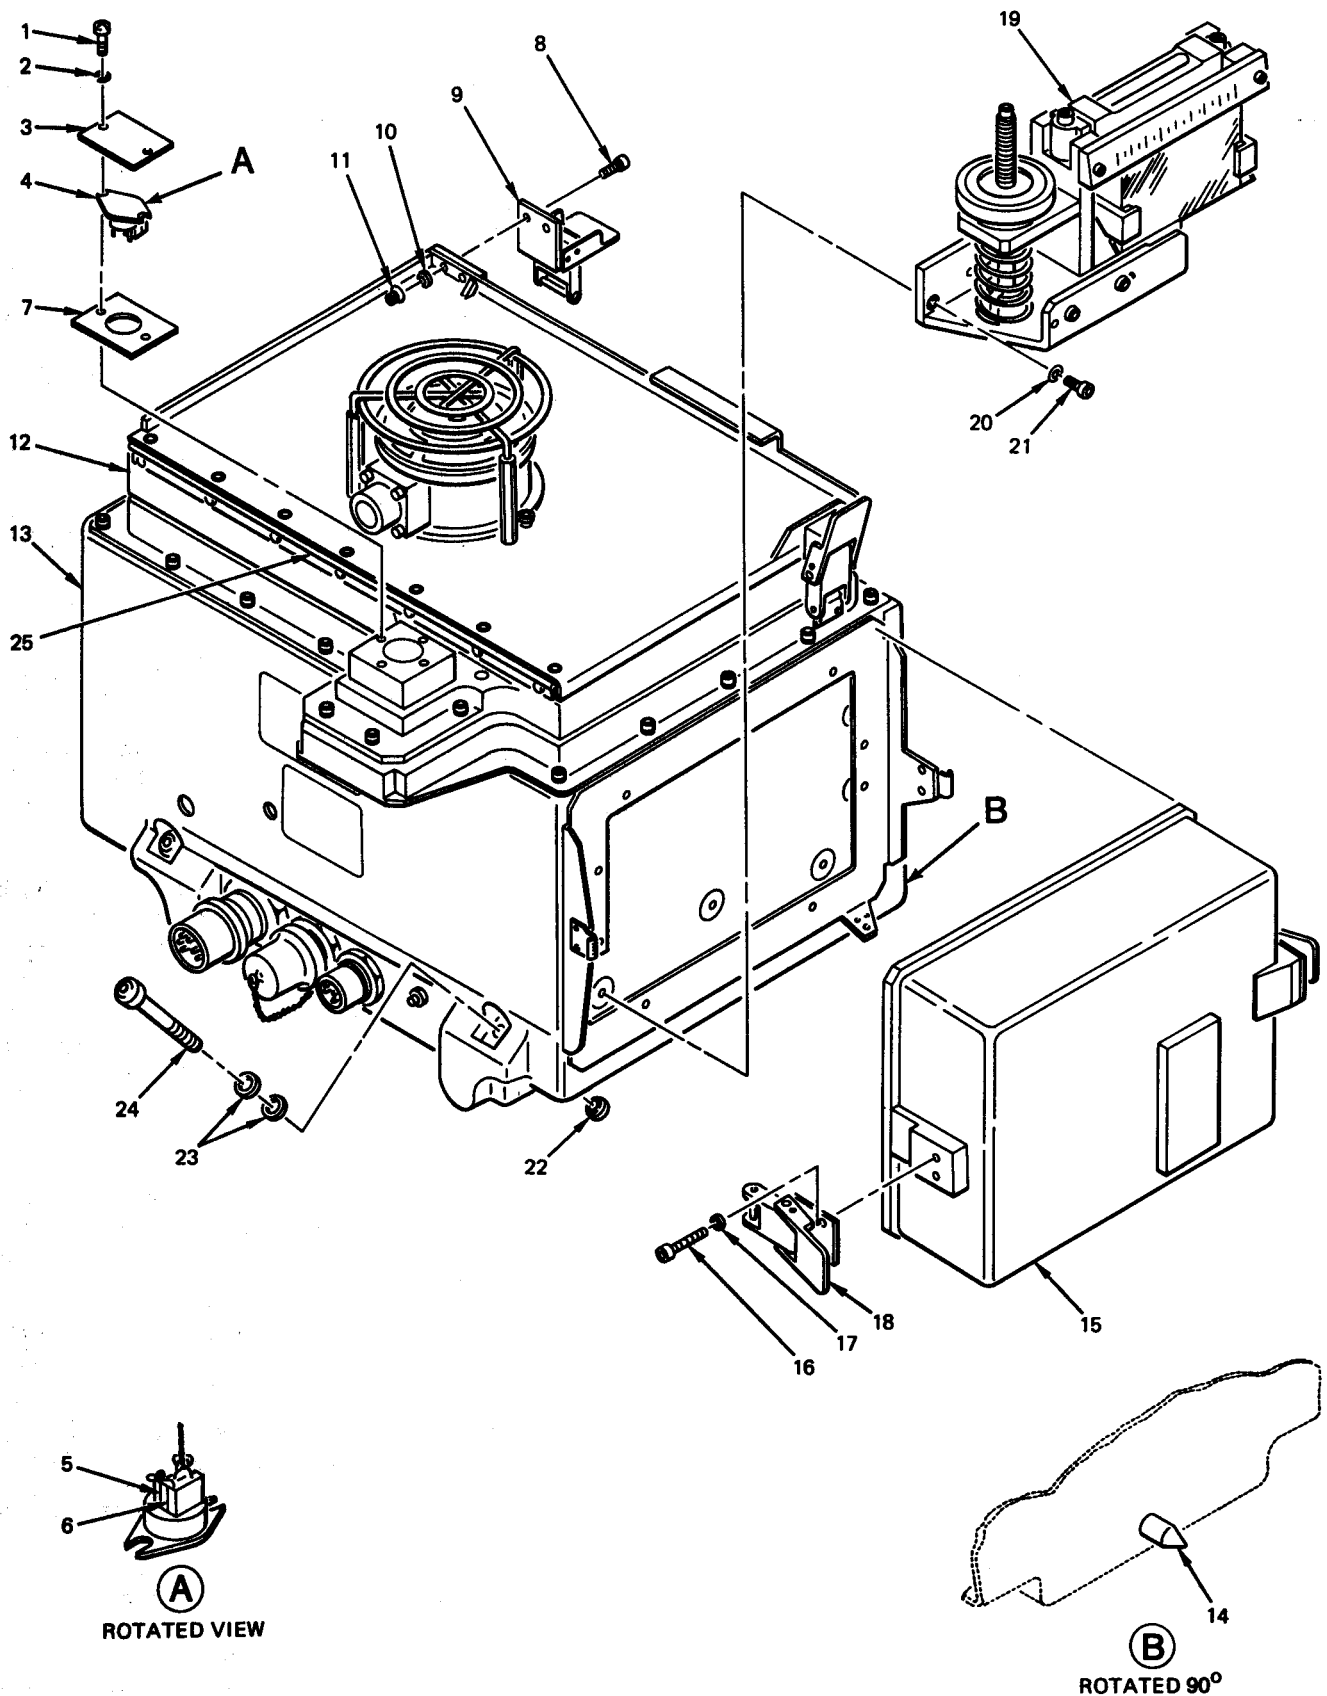

Figure 4-18. IMU Exploded View
b. *IMU Repair.* IMU repair allocated to general support by the MAC consists of replacing the porro prism. Alignment of porro prism after replacement is described in paragraph 4-11. Figure 4-18 is an exploded view of the IMU.
(1) *Porro prism assembly.* Remove and replace porro prism assembly (19, figure 4-18) as follows:
Legend for Figure 4-18